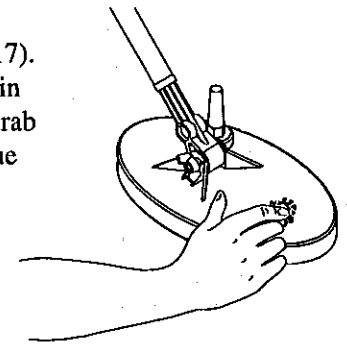

Figure 17 — Locating the Target
- c) Pick up a handful of soil from the pile and pass it across the coil (see Figure 17). If there is no signal then place the soil in a second pile away from the first and grab another handful from the pile. Continue this process until the target is in your hand. Sift through the soil in your hand until you find the target.